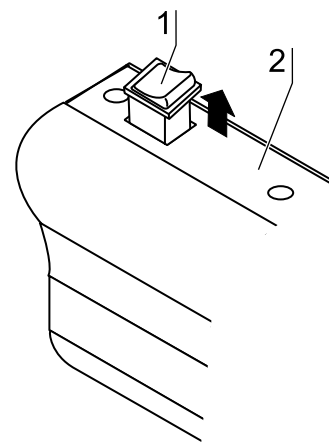

Fig. 16
5. **Fig. 16:** The switch [1] is merely plugged into the mounting frame [2] and can be lifted off.